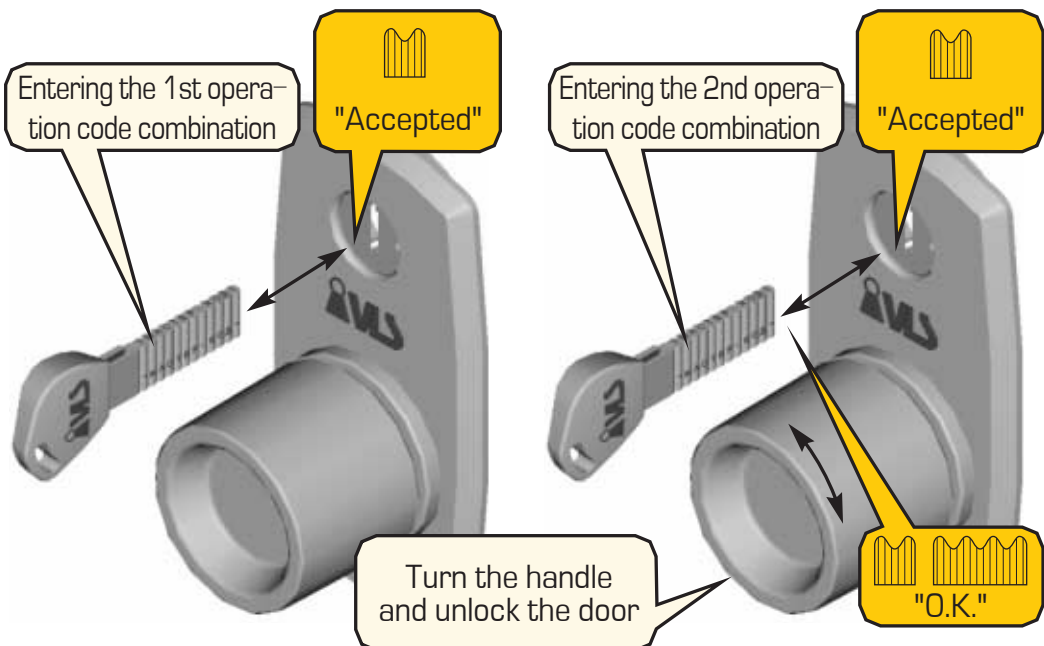

Figure 27 – Operation Code Programming
**7.** Insert the key into the keyhole up to the stop, and then remove it. When you insert the key, the "Accepted" signal shall be heard, and when you remove it the "Accepted" signal shall also be heard (figure 27).
**9.** Insert the key into the keyhole up to the stop, and then remove it. When you insert the key, the "Accepted" signal shall be heard, and when you remove it the "Accepted" signal shall also be heard (figure 27).